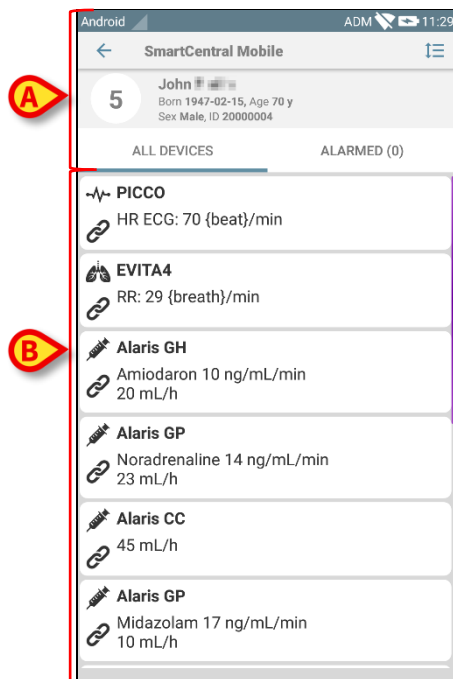

Fig 217
- Touch one of the squares on the “Central” screen (Fig 217).
This screen is formed of two areas: a heading area (Fig 217 **A**) and the medical devices list (Fig 217 **B**).